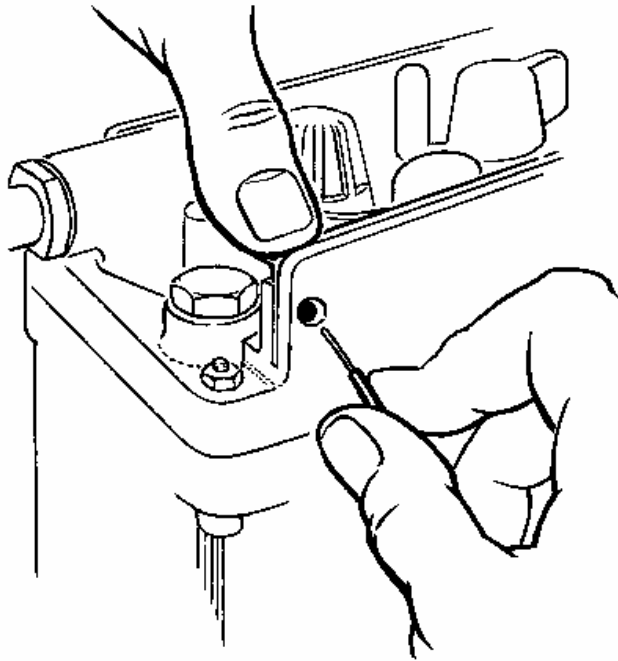

FIG.7 - INSERTING GREEN EARTH LEAD FROM COUNTERPOISE OR LEAD FROM DIPOLE FEEDER
- (m) "EARTH" (Fig.7). On the outer flange near the aerial tuning meter is an earth terminal to which connection is made by *DEPRESSING* the leaf spring, inserting the earth wire through the counter-sunk hole in the outer flange, and then releasing the leaf spring.